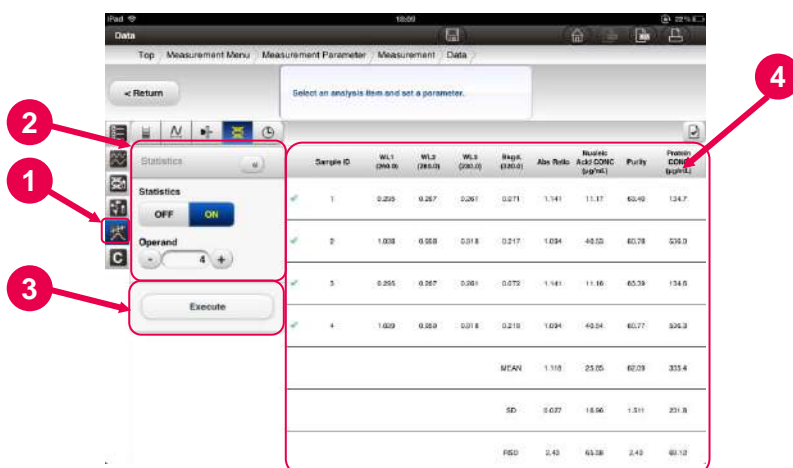

Fig. 5-42 Statistical Calculation Setting Parameters Window
- (1) To change the statistical calculation setting parameters, press the [Statistical Calculation Tool Icon] button .
- (2) The setting parameters for the statistical calculation (Fig. 5-42) are displayed. See 4.2.3 “Measuring Nucleic Acid Specimens” for the statistical calculation setting parameters.
- (3) Set up the items and press the [Execute] button.
- (4) The results of the data processing are displayed.